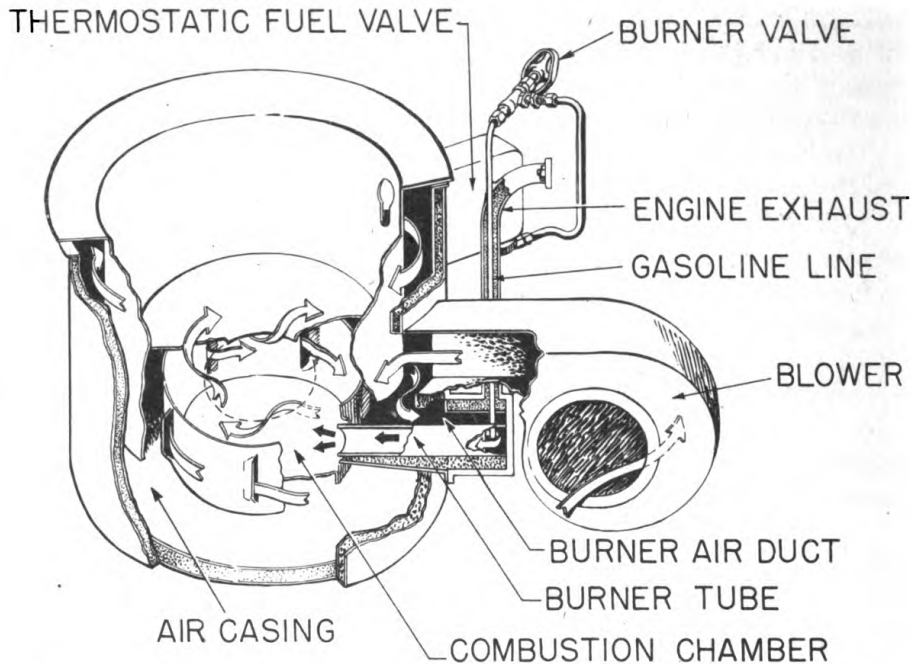

Fig 72. Heating group parts, showing flow of engine vapors and air.
b. Description and functioning. Reference to figure 72, show-
(1) The process by which fire is built up takes place in burner (fig 72). The piping by which gasoline reaches burner passes through engine exhaust. When the burner valve is opened, to permit the discharge of gasoline through the piping, the engine exhaust vapors heat the gasoline. The engine vapors escape into combustion chamber of furnace assembly, while the gasoline is carried on into burner tube.
(2) At the same time, the blower fan is circulating air in the air casing of the furnace assembly. This air swirls into the combustion chamber through a series of vents and from there into burner air duct and tube where it mixes with incoming gasoline which has been partly vaporized by heat of the engine exhaust.
(3) The burner spark plug ignites the air gasoline mixture as it passes into combustion chamber. When burner valve is first opened, the gasoline flow is regulated by gasoline control orifice. Full fire results, gasoline being consumed at the rate of approximately 6 gallons an hour. As soon, however, as the fire becomes hot enough to produce the correct operating temperature of 900 degrees Fahrenheit at the smoke discharge manifold, the thermostatic fuel valve acts to reduce flow of gasoline to burner and lowers fire (pars 12 and 86).
(4) When the fog valve is opened, the fire comes up, and while the generator is making smoke, the gasoline consumption approx-